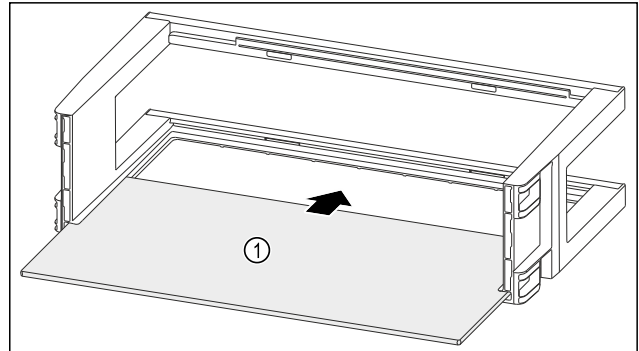

Fig. 150
- Push the shelf Fig. 150 (1) into the side recesses.